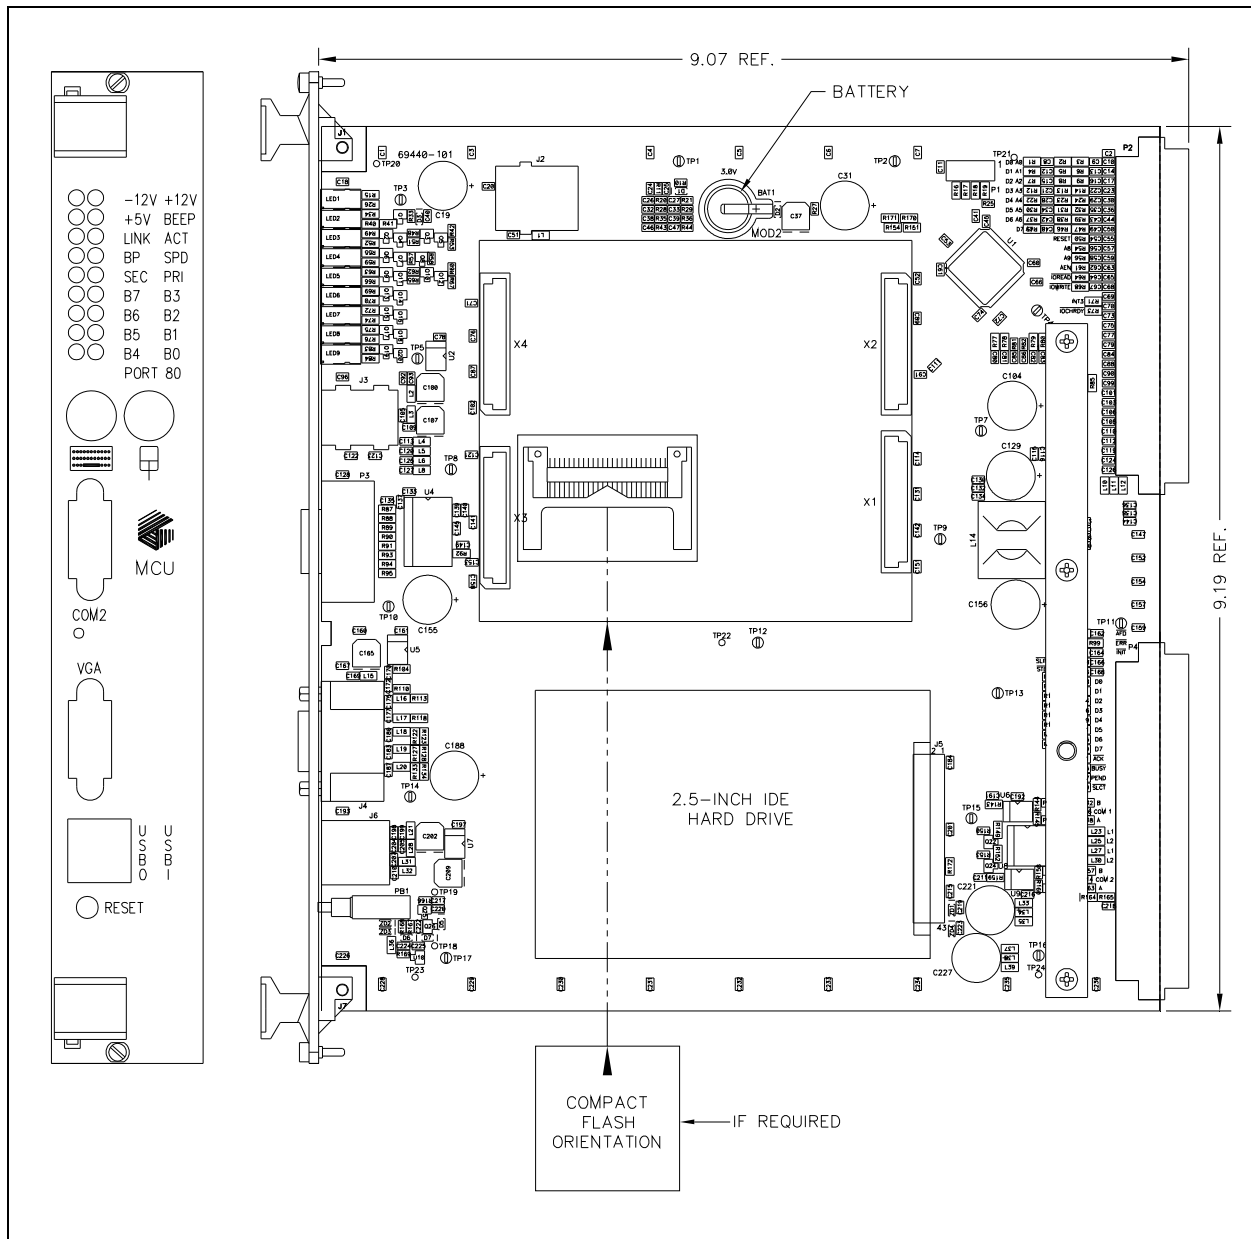

Figure 1. Model 69635-001 PCBA Master Control Unit
Refer to Figure 1 for component location and installation details.
1. Lift the retainer clip away from battery and pry the battery out of the holder. See Figure 1 for location.